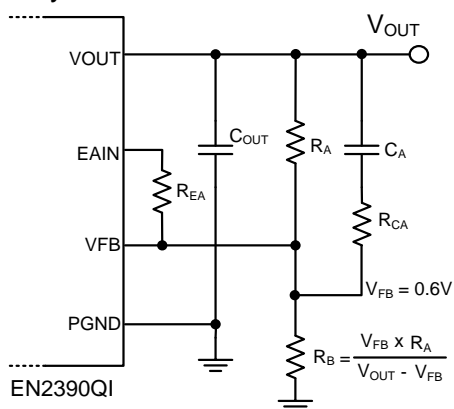

Figure 12:  $V_{OUT}$  Resistor Divider & Compensation Components. See Table 4 for details.
The EN2390QI uses a Type IV Voltage Mode compensation network. Type IV Voltage Mode control is a proprietary Altera Enpirion control scheme that maximizes control loop bandwidth to deliver excellent load transient responses and maintain output regulation with pin point accuracy. For ease of use, most of this network has been customized and is integrated within the device package. The EN2390QI output voltage is programmed using a simple resistor divider network ( $R_A$  and  $R_B$ ). The feedback voltage at VFB is nominally 0.6V.  $R_A$  is predetermined based on Table 4 and  $R_B$  can be calculated based on Figure 12. The values recommended for  $C_{OUT}$ ,  $C_A$ ,  $R_{CA}$  and  $R_{EA}$  make up the external compensation of the EN2390QI. It will vary with each PVIN and VOUT combination to optimize on performance. The EN2390QI solution can be optimized for either smallest size or highest performance. Please see Table 4 for a list of recommended  $R_A$ ,  $C_A$ ,  $R_{CA}$ ,  $R_{EA}$  and  $C_{OUT}$  values for each solution. Since VFB is a sensitive node, do not touch the VFB node while the device is in operation as doing so may introduce parasitic capacitance into the control loop that causes the device to behave abnormally and damage may occur.
**Table 4:**  $R_A$ ,  $C_A$ ,  $R_{CA}$  and  $R_{EA}$  Values for Various PVIN/VOUT Combinations: Best Performance vs. Smallest Solution Size. Use the equations in Figure 12 to calculate  $R_B$ . Output ripple is measured at no load and nominal deviation is for a 9A load transient step. For a voltage in between the specified output voltages, choose compensation values of the lower output voltage setting.